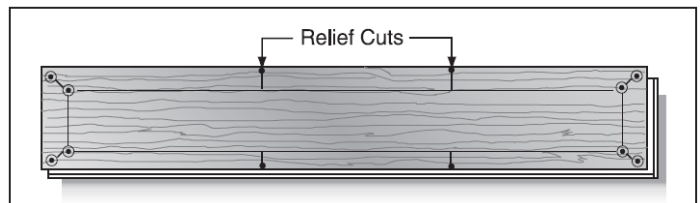

Fig. 40
2. Mark damaged board 1-1/2" (3.81 cm) from ends and sides. Drill 3/16" (4.76 mm) holes in corners and at relief cuts (**Fig. 40**).